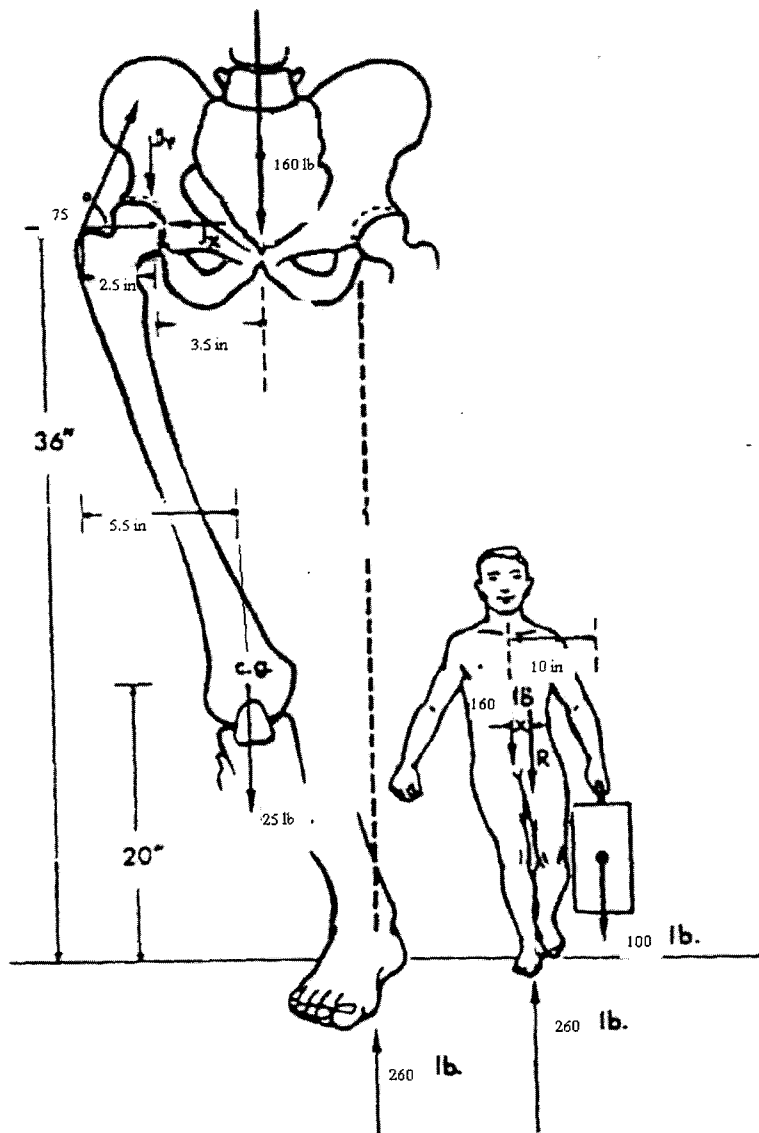

Figure 4: The posture of a man with 100 lb. box in one hand. The dimensions were obtained from measurements of x-ray films.
3. A 160 lb. man is carrying a 100 lb. material-box in his left hand while standing on his right foot. The center of mass of the box is 10 inches from his center of mass. The direction of the resultant of the hip abductor muscle group acting at the greater trochanter made an angle of 75 degrees with the horizontal. The other dimensions required have been obtained from measurements of x-ray films (shown in Figure 4).